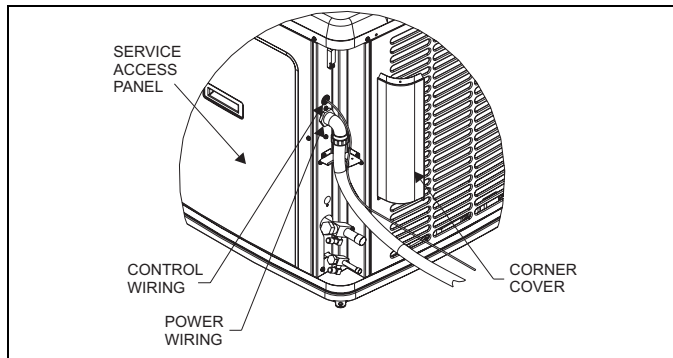

FIGURE 5: Typical Field Wiring
- Remove the screws at the bottom of the corner cover. Slide corner cover down and remove from unit. See Figure 5.